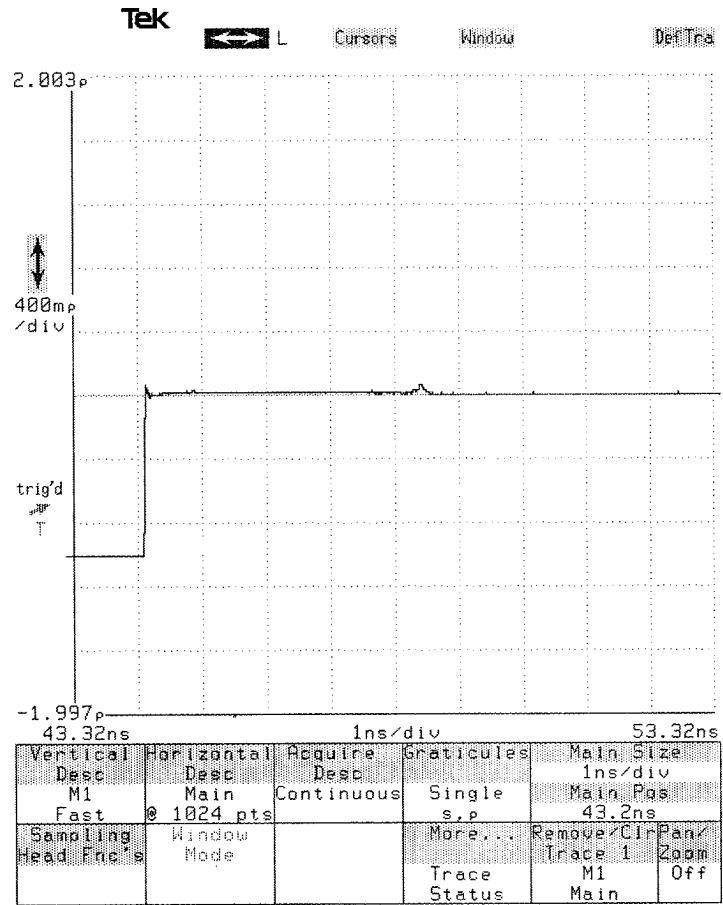

Figure 8 – Foot Switch in Normal Position (not pressed), Cable Terminated in 50 Ω
| | Figure 8 | Foot Switch in Normal Position (not pressed), Cable Terminated in 50 Ω | 10 |
Step 4: Release the foot switch and verify that the cable is now terminated in 50 Ω (see Fig. 8).